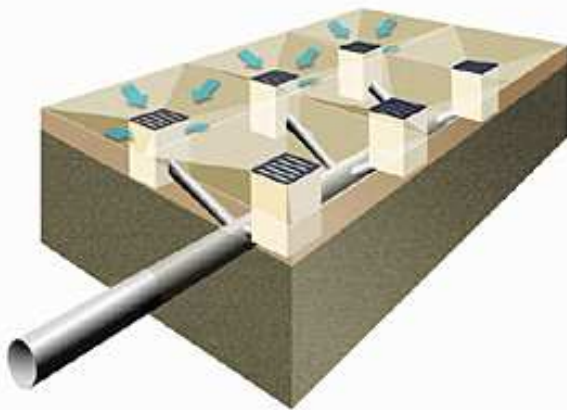

Figure 1.
- Grated pit & pipe system – point drainage (Figure 1.) or